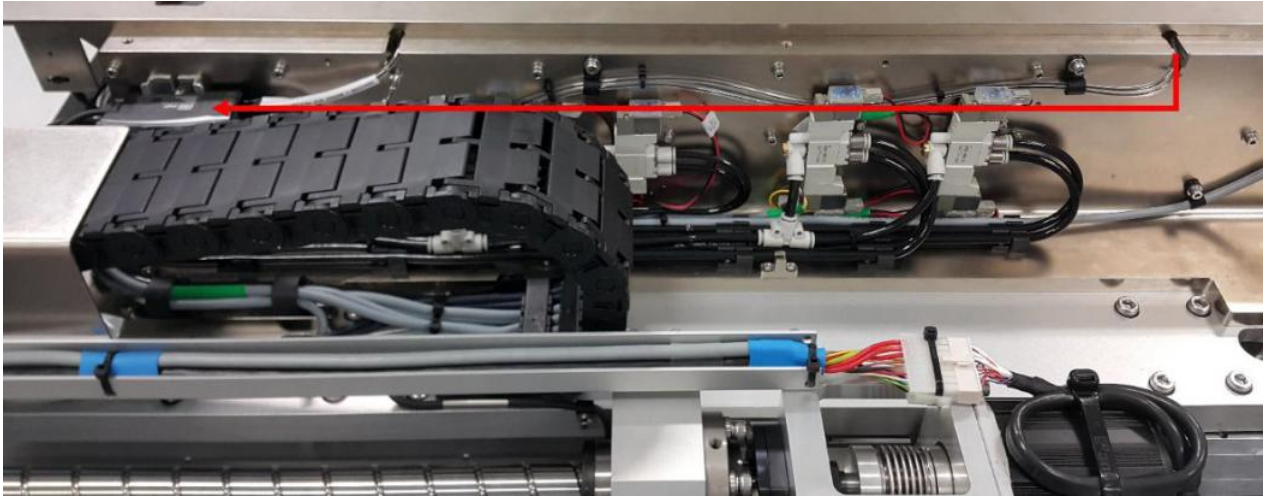
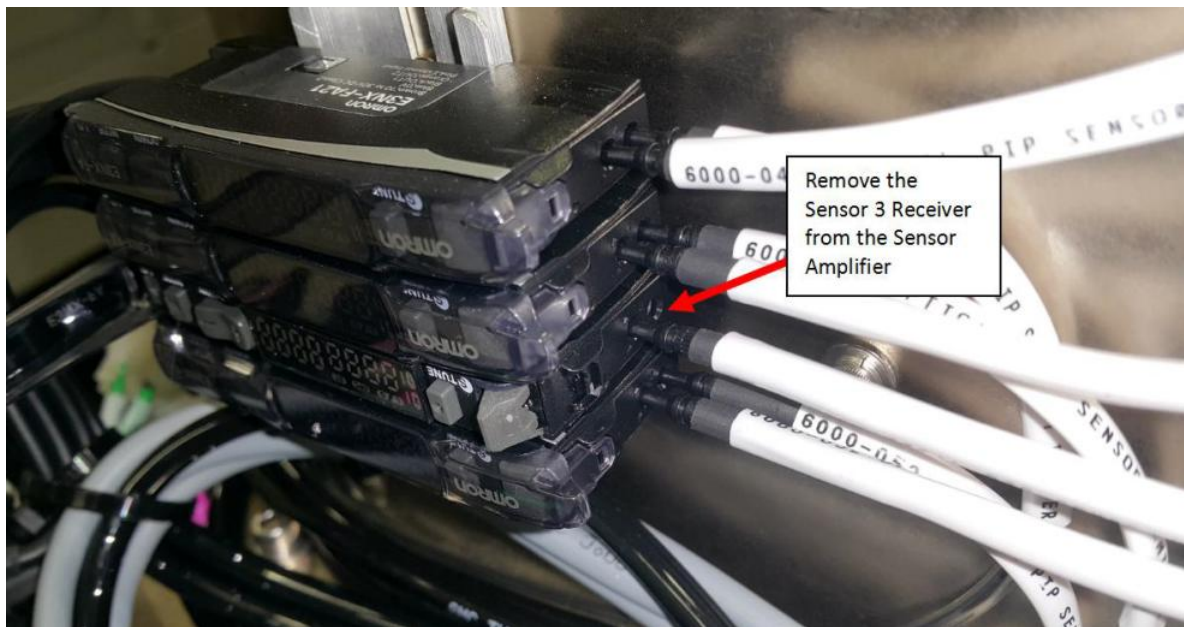

Figure 17 Sensor 3 Receiver Cable Routing
Figure 20 Sensor 3 Receiver (Amplifier)
3. Remove Sensor 3 Receiver Head Cable by refer to the route as Figure 17 to Figure 20.